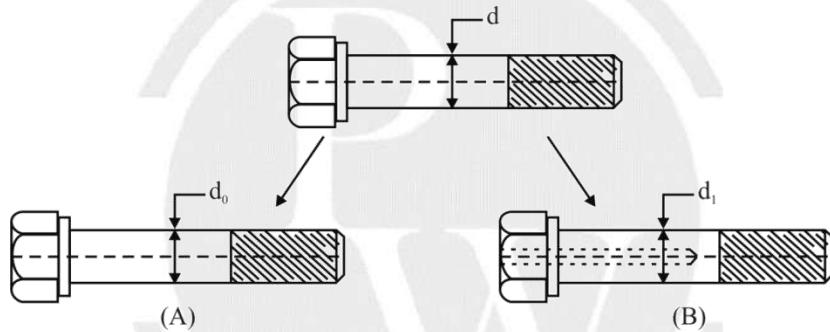

Fig.4.16: Bolts of uniform strength
Option 1: Either by reducing the unthreaded cross-sectional area (to increase stress) by turning operation as you can see in image(A) of figure 4.16.
Option 2: Either by reducing the unthreaded cross-sectional area by drilling a hole through it as you can see in image (B) of figure 4.16.